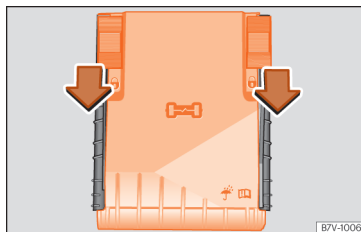

Fig. 59 In the engine compartment: fuse box cover.
- Move the attachment tabs forwards, in the direction indicated by the arrow to release the fuse box cover »» **Fig. 59**.